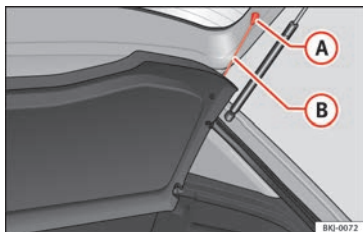

Fig. 167 In the luggage compartment: removing and installing the rear shelf.
- Detach the cord loops » **Fig. 167** **(B)** from their hooks **(A)**.
- Hook the loops » **Fig. 167** **(B)** to the rear lid.